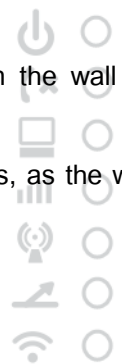

Figure 10.6
3. Once the device is properly fixed on the wall-mounted bracket, it looks straight and stable on the wall as demonstrated in **Figure 10.6**.